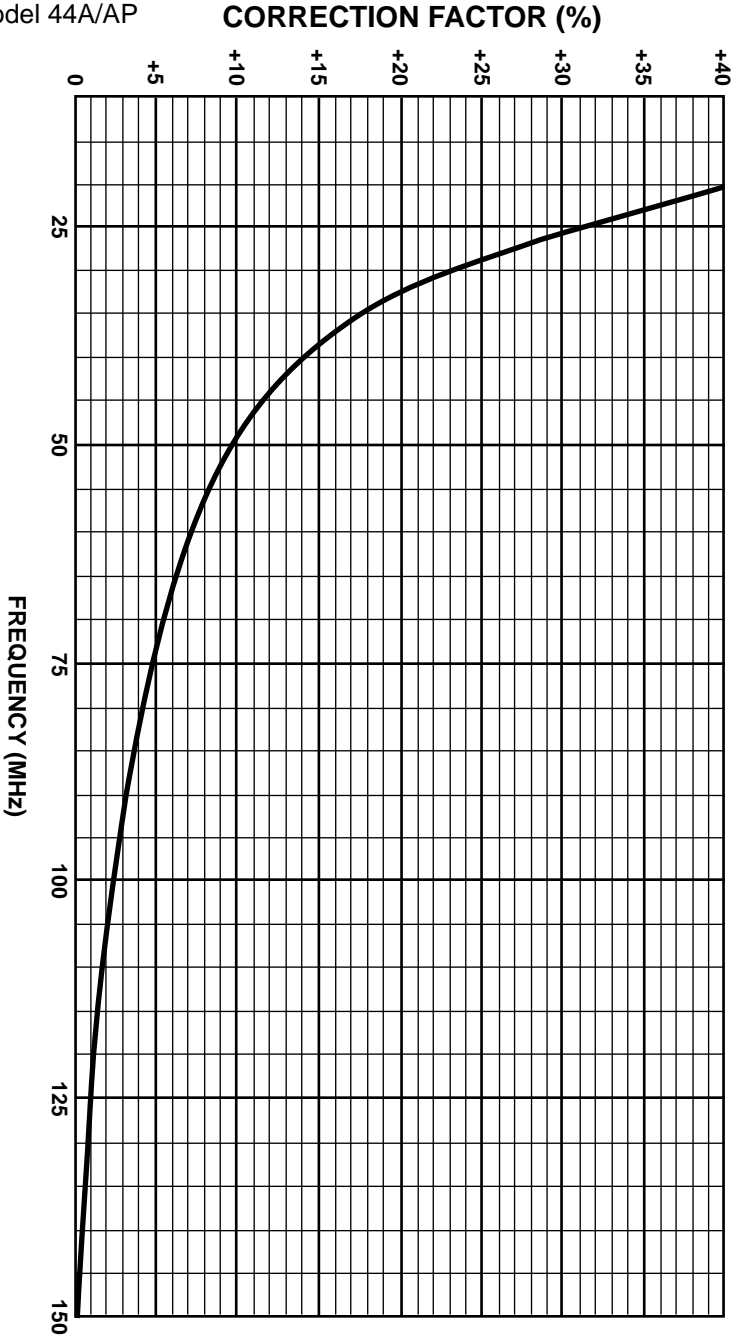

Figure 7-2: Model 44A/AP RF Wattmeter Correction Factor for Frequencies below 150 MHz
7.03 Figure 7-2 (pg. 18) shows the watt meter correction factor for power measurements below 150 MHz. For example: